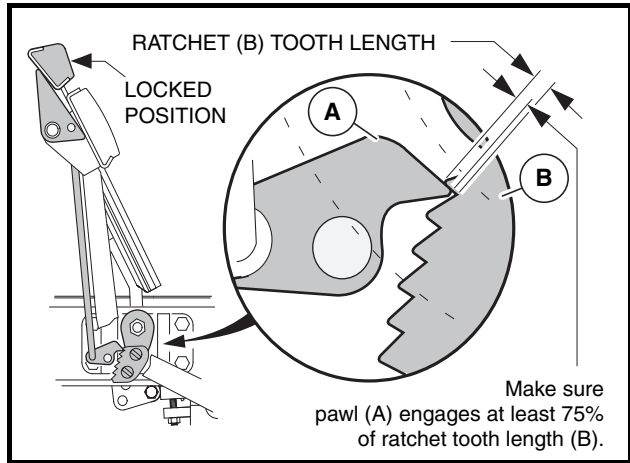

Figure 5-26 Ratchet/Pawl Tooth Engagement
- 3.4. With the park brake locked, make sure at least 75% of ratchet tooth length engages the pawl (**Figure 5-26, Page 5-18**). Tooth engagement should be between the two lines marked on the pawl.